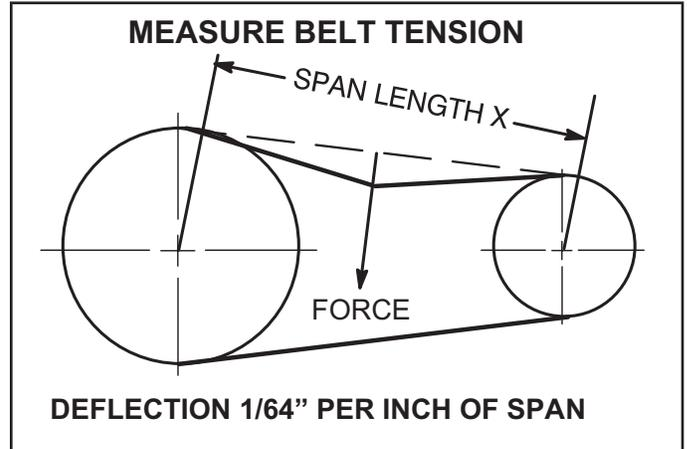

FIGURE 18
- 1 - Measure span length X. See FIGURE 18.
- 2 - Apply perpendicular force to center of span (X) with enough pressure to deflect belt 1/64" for every inch of span length.